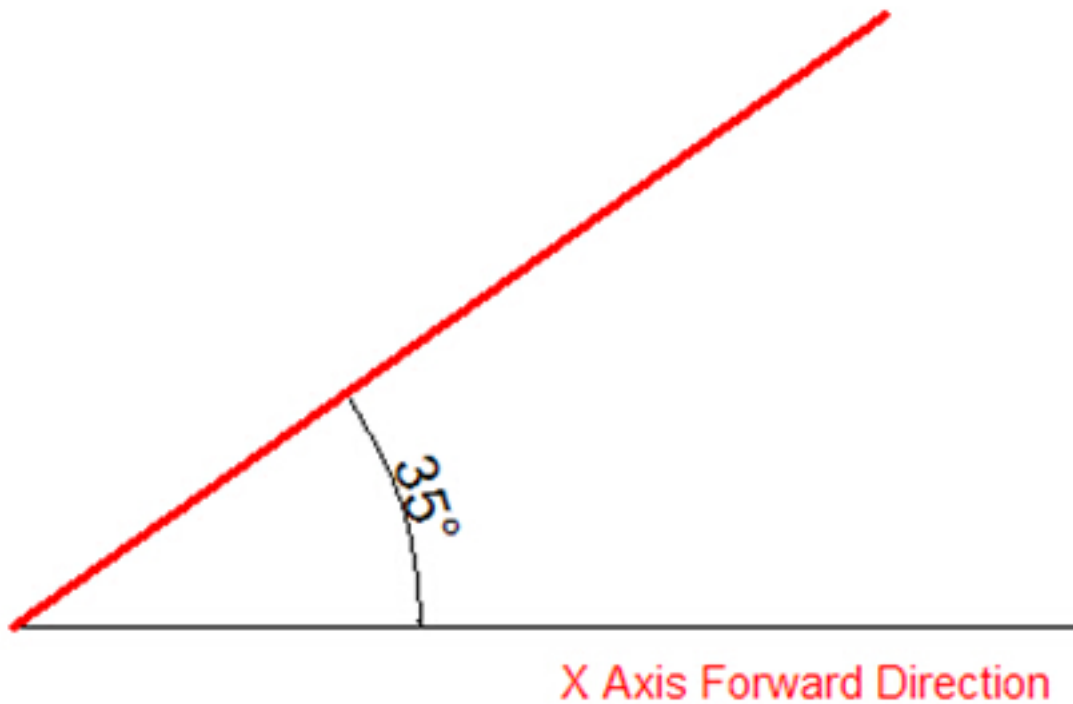

Figure 1-1
**To draw the red line in Figure 1-1, the steps as below:**